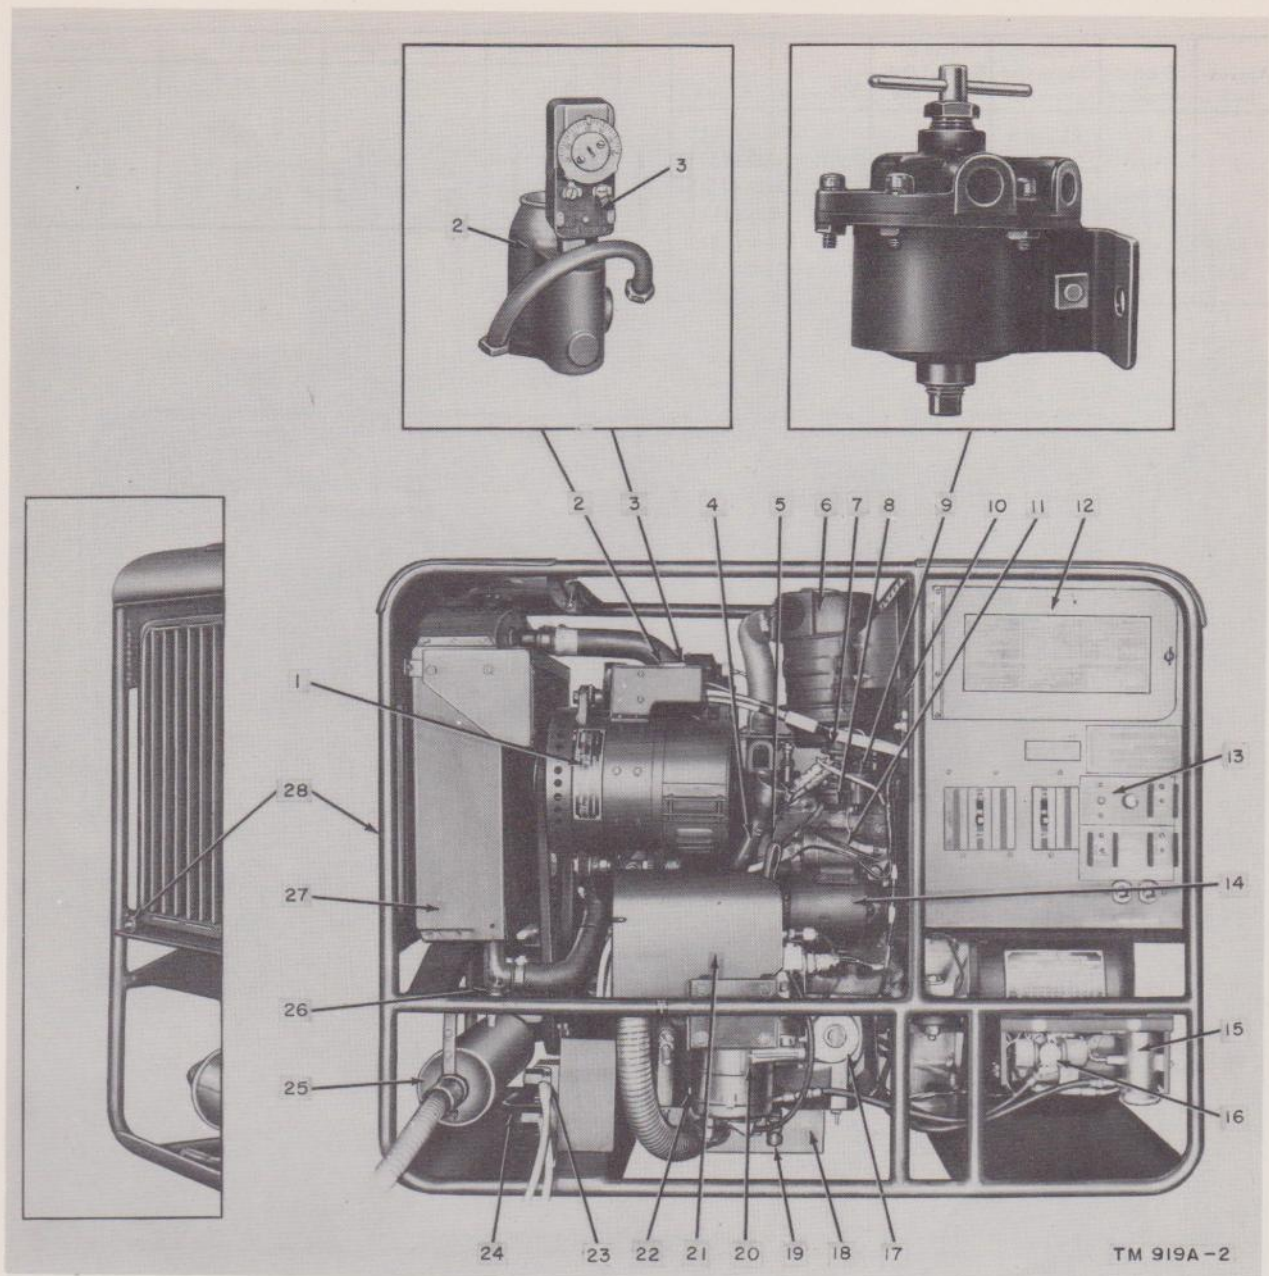

Figure 2. Gasoline Engine Generator Set PU-107A/U, left side.
a. Engine. The generator is driven by a conventional, L-head, four-stroke cycle, four-cylinder, liquid cooled, gasoline engine. Ignition is provided by a high-tension magneto (11, fig. 3) and self shielded spark plugs (3, fig. 3). A 15-quart, tubular-cell radiator (27, fig. 2), belt driven fan and water pump comprise the major elements of the cooling system. The engine is lubricated by a gear-type oil pump that delivers oil under pressure to the main bearings and connecting rod bearings. The fuel system consists of an up-draft carburetor (14, fig. 3), a diaphragm-type fuel pump (16, fig. 3), and a remote fuel line and fuel drum adapter. There is no fuel tank on the unit. The engine may be started by means of a hand crank or by a 24-volt electric starting system. Two 12-volt storage batteries, connected in series, are provided to supply power for the electric starting motor. A belt-driven, 24-volt dc generator (5, fig. 3) maintains the batteries in a charged condition.
b. Winterization system. A winterization system is provided to aid in starting the engine in low temperatures. The winterization unit consists of a fuel pump (15, fig. 2), fuel control valve (16, fig. 2), blower (17, fig. 2), heat exchanger pan (18, fig. 2), and shield (21, fig. 2). A switch, circuit breaker, and indicator lamp for control of the winterization system are mounted on the unit control panel.
d. Dc power generator. A separate, 28-volt dc generator (1, fig. 2) is mounted to one side of the engine and driven by a V-belt from the engine crankshaft. This generator, when operated at 4,500 rpm, will deliver 2.5 kw, 28 volts dc.